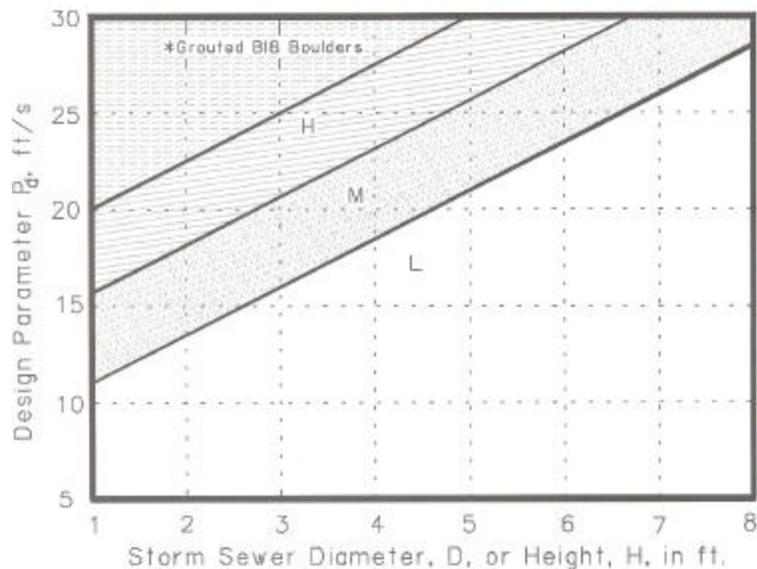

Figure 4. Riprap Size Selection Chart for the Basin at Pipe Outlet.
Use Figure 4 to find the size and type of the riprap to use in the scour protection basin downstream of the pipe outlet [i.e., HG (grouted H), H, M or L]. First, calculate the riprap sizing design parameter, P_d , namely,
When the riprap sizing design parameter indicates conditions that place the design above the Type H riprap line in Figure 4, use HG, or larger, grouted rock. An alternative to a grouted or loose riprap basin is to use the standard Bureau of Reclamation Basin VI, a reinforced concrete impact structure, to dissipate the energy in the flow at the outlet of the pipe.
Step 7. Calculate the riprap sizing design parameter, P_d , and use it in Figure 4 find the appropriate riprap size:
Step 7. Calculate the riprap sizing design parameter, P_d , and use Figure 4 find the appropriate riprap size: